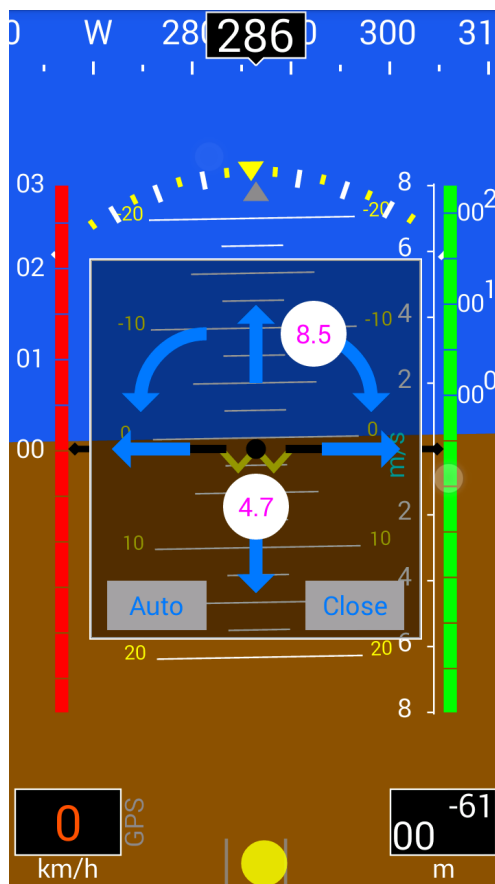

Figure 5: AHRS leveling. Press “Auto” for automatic leveling, and/or use the arrows to manually adjust the AHRS and the compass
- AEFIS will return back to the main screen and the “AHRS leveling” window (Fig. 5) will appear.